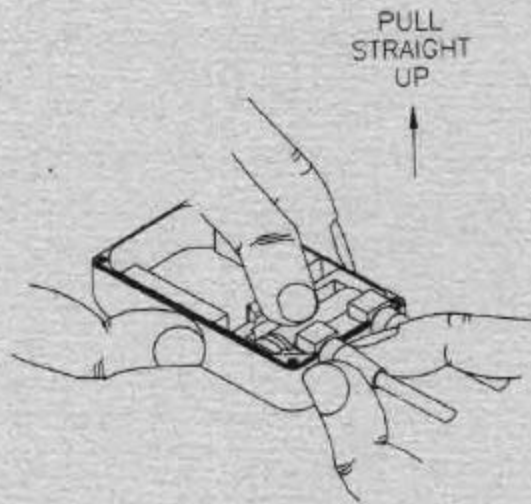
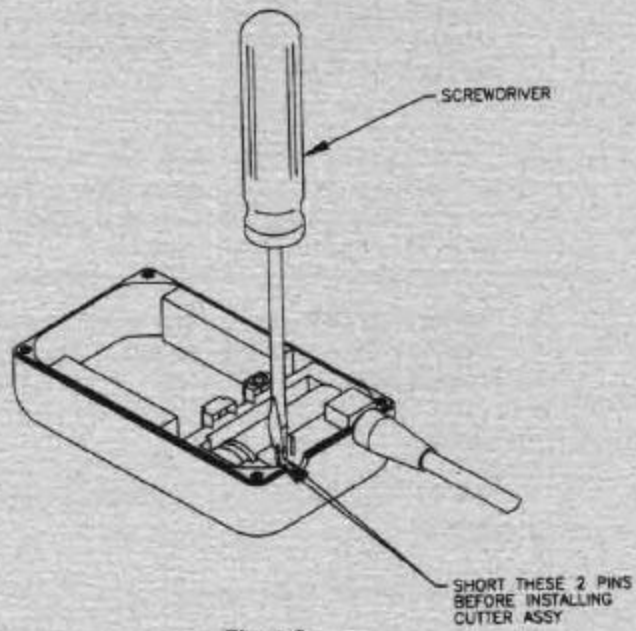

Figure 8
Figure 9
- a. Unplug the cutter cable connector in the Power Pack by holding the flex circuit down with one hand while grasping the connector body with the other hand and pulling it straight up (see Figure 8).
Before installing a Cutter Cable Assembly, short the outside pin of the 3 pin circuit to the center pin (see Figure 9). This "WILL" discharge any residual voltage on the capacitor thus preventing the possibility of the cutter firing as it is plugged in.
- Step 2 Carefully remove the cutter (see Figure 8), and then carefully install the Cutter Test Probe.
- Step 9 Now remove the Cutter Test probe, (see Figure 8) and discharge the capacitor (see Figure 9).